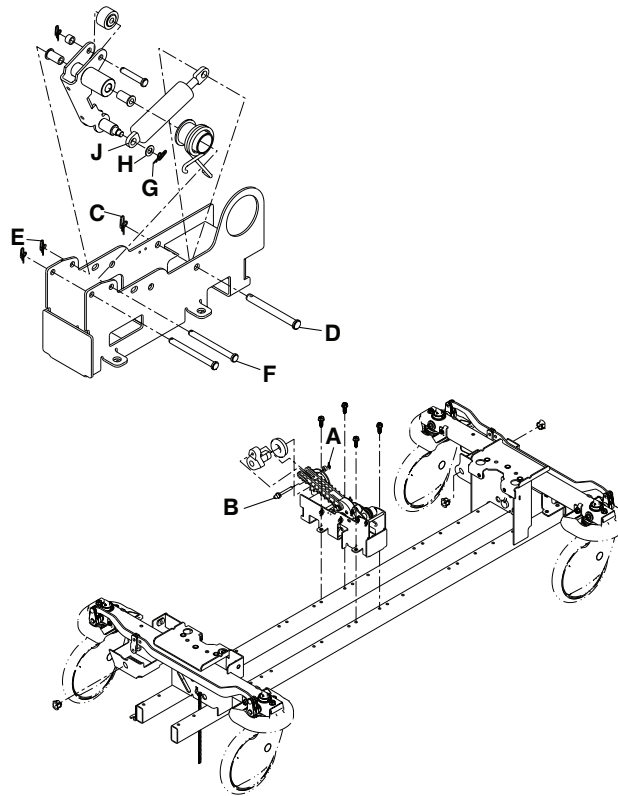

Figure 8 – Replace the gas cylinder
4. Using needle nose pliers, remove the **Big Wheel** drive link rue ring cotter (A) and clevis pin (B) from the lift cam and move the lift cam out of the way (Figure 8).